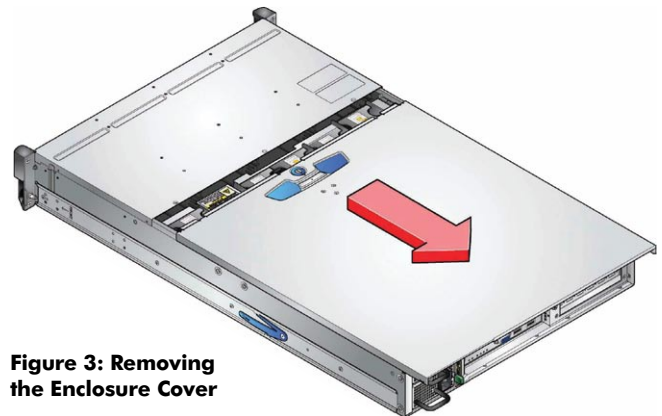

Figure 3: Removing the Enclosure Cover
1. Release the enclosure top cover by turning the lock mechanism to the 'Unlocked' position and slide the cover back until it stops (see Figure 3).